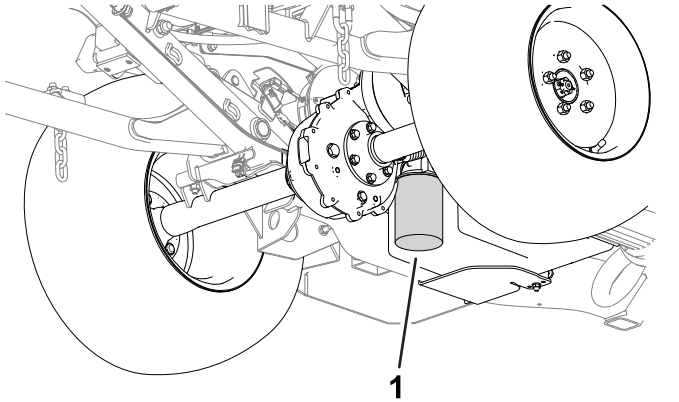

Figure 57
1. Clean the area around the hydraulic-filter mounting area (shown in Figure 57).